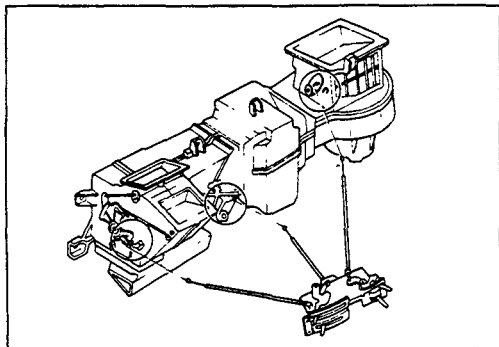

Fig.6
13. Control Lever Assembly (Fig.6)